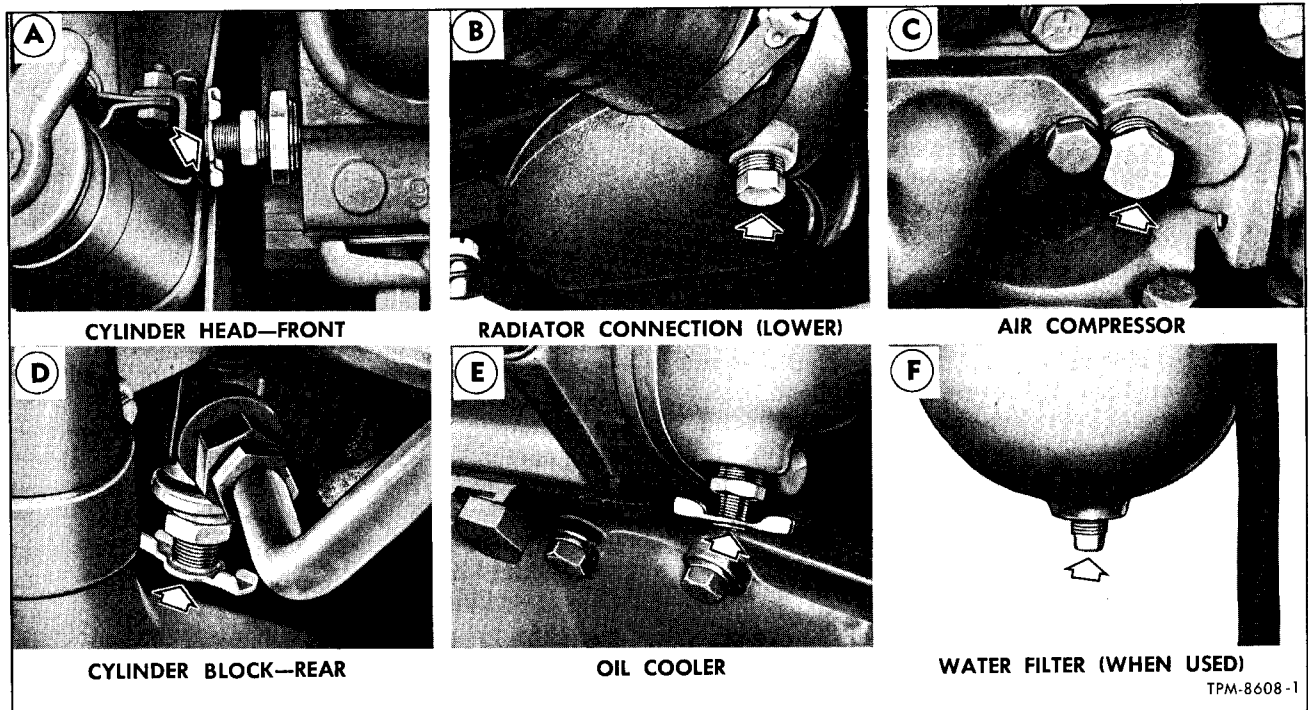

Figure 2—Location of Cooling System Drain Points
1. Remove drain plug from radiator outlet connection at bottom of radiator (B, fig. 2).
2. At air compressor, remove plug at side of cylinder block (C, fig. 2).
3. At bulkhead side of engine, open drain cock at oil cooler inlet (E, fig. 2).
4. At rear side of engine, open drain cock at front of cylinder block (A, fig. 2), and drain cock in air compressor water line fitting at cylinder block (D, fig. 2).
5. When used as special equipment, remove plug from bottom of filter housing (F, fig. 2).